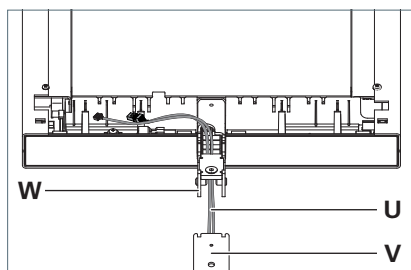

Fig. 10: Mounting the luminaire head on the support tube.
- Guide the cables **U** from below through the support arm **W** on the luminaire head and insert the support arm completely into the support tube **V**, see Fig. 10.